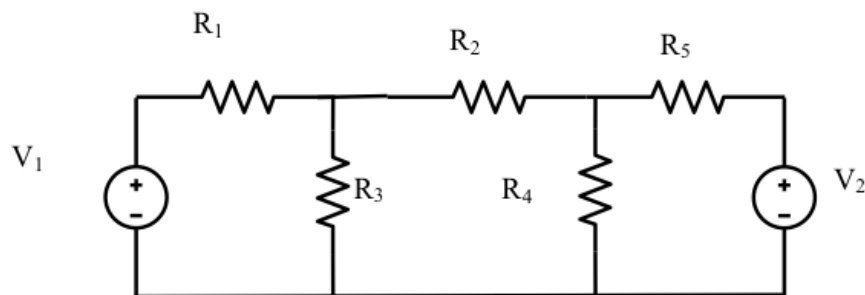

Fig. L1.2 Series parallel circuit
2. Find the voltage across each resistor ( $V_{RX}$ ) and the current in each resistor ( $I_{RX}$ ) in Fig L1.2. Assume the following values for the resistors:  $R_1 = 1\text{ K}\Omega$ ,  $R_2 = 4.7\text{ K}\Omega$ ,  $R_3 = 10\text{ K}\Omega$ ,  $R_4 = 4.7\text{ K}\Omega$ ,  $R_5 = 1\text{ K}\Omega$ ,  $V_1 = 5\text{ V}$ ,  $V_2 = 7\text{ V}$ .
In this part, you will construct a circuit based on Fig. L1.2 and measure the output voltage  $V_{out}$  and current passing through  $R_4$ . Please follow the steps below.
2. Construct the circuit in Fig. L1.2 using a breadboard.